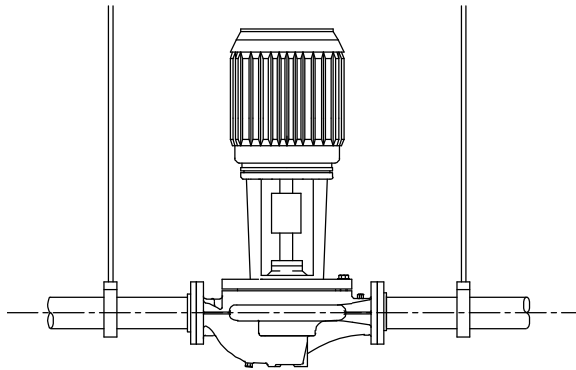

Fig. 2.1 Hanger supported pipe mounted
- 2.1 Vertical In-Line pumps may be installed directly in the system piping with no additional support. Pipe hangers are simply sized for the additional weight of the pumping unit. Many pumps are installed in this manner and are mounted at sufficient height to take zero floor space. (Fig. 2.1)